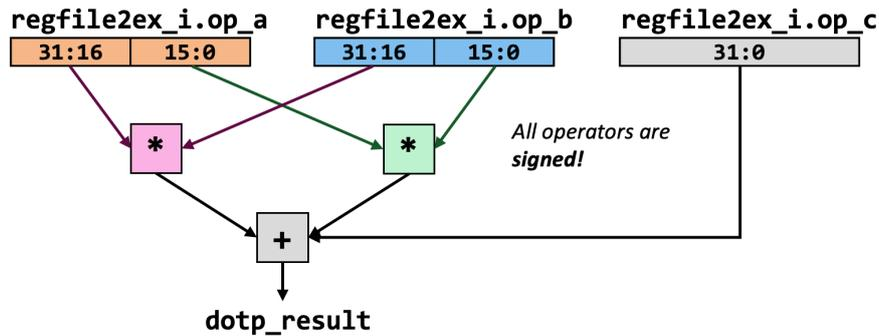

Figure 15: FIR XIFU `xfirdotp` unit.
- Lines 88–118 of the original stub file contain a few suggestions on how to design the dot product unit. Consider the dot-product architecture of Fig. 15 and implement it.